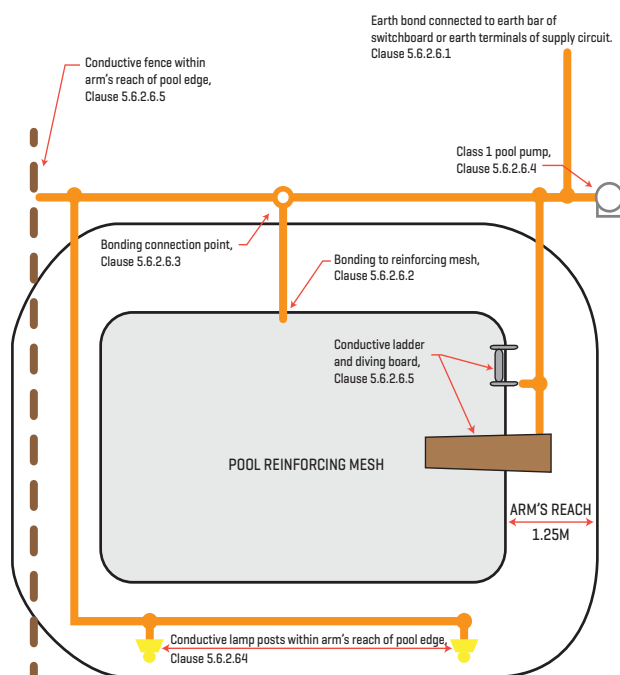

Figure 5.9: Example of bonding arrangement for pools and spas.
- * Order of headings under *Swimming pools and spas* is substantially changed and considerably modified. Due to this, all cross references have been rehome. A new figure 5.9 *Examples of bonding arrangements* has been added. The new order of headings is:
- * *Bonding arrangement*: the wording in [a] and [c] has been changed but [a] and [d] remain as before. There are no changes in intent. The new Figure 5.9 is also referenced.